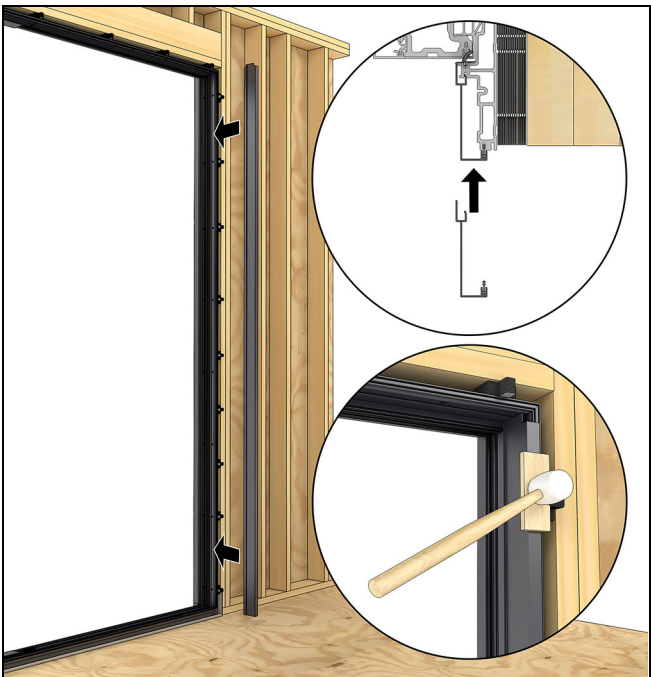

Figure 61 OX, XO, OXO shown
15. On all configurations, install jamb covers on your stationary jambs and seat with a rubber mallet. See Figure 61.